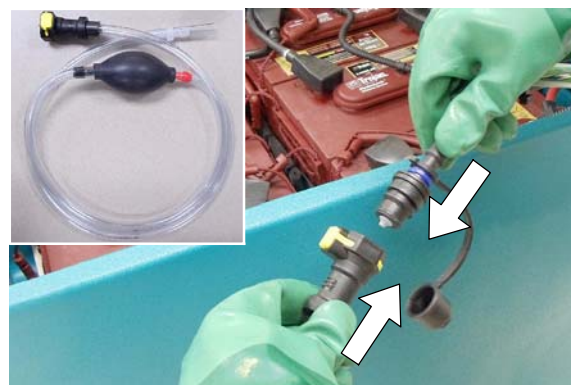

FIG. 48
3. Locate the battery fill hose coupler inside the battery compartment. Remove the dust cap and connect the hand pump hose (Figure 48).